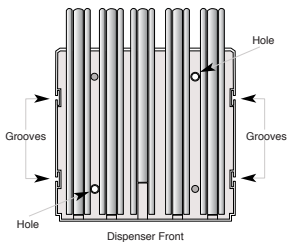

Figure 1
4. Take the dispenser portion of the unit (Figure 1) and check to ensure the spacer caps are in place on the back. Push the two supplied screws into the holes on the front of the unit and position it in on the wall in line with the anchors. Screw snugly into place.